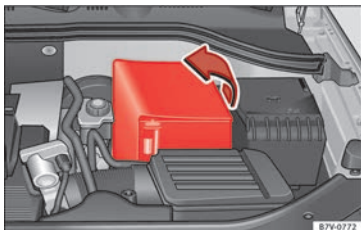

Fig. 250 In the engine compartment: lift off the cover from the vehicle's battery.
- *In the case of a cover:* fold the cover to one side to remove » **Fig. 250**.